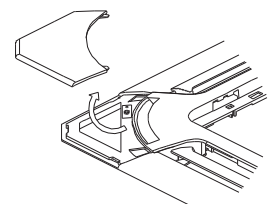

Fig.1-9
- Wrench off the bolts, loose the rope of the installation covers, and remove them. (Refer to Fig.1-9)